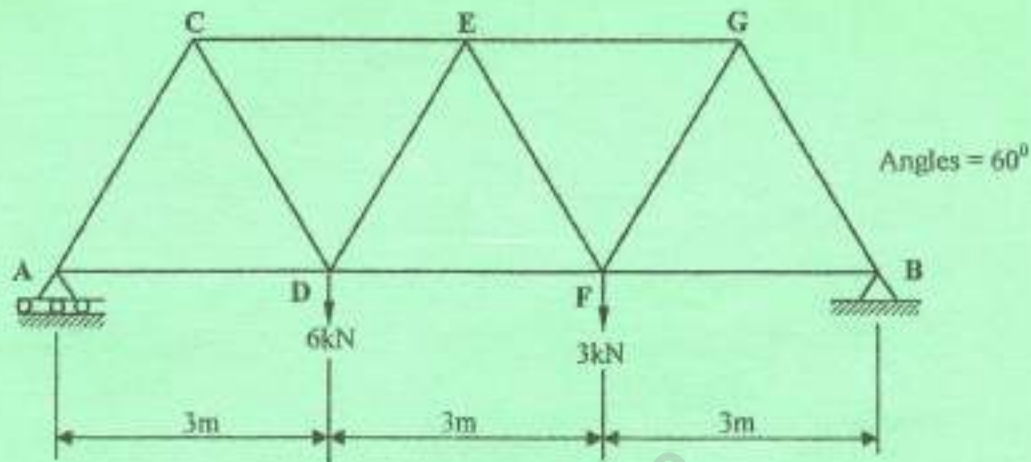

Fig. 1
- (b) A simply supported framework is loaded as shown in figure 1.